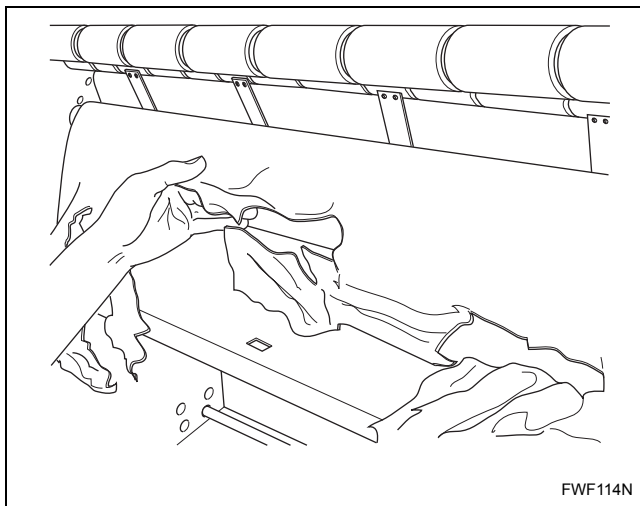

Figure 18
- d. Guide protective paper out of machine. Refer to *Figure 18*.